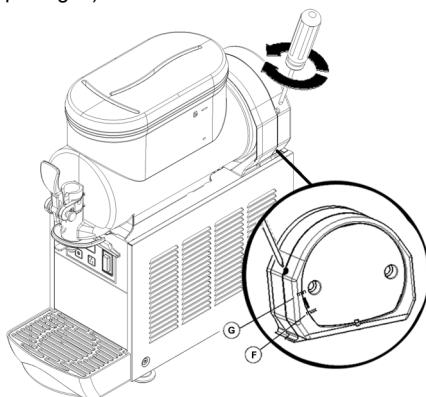

figure 4
- wall of each container as follows (see figure 4):